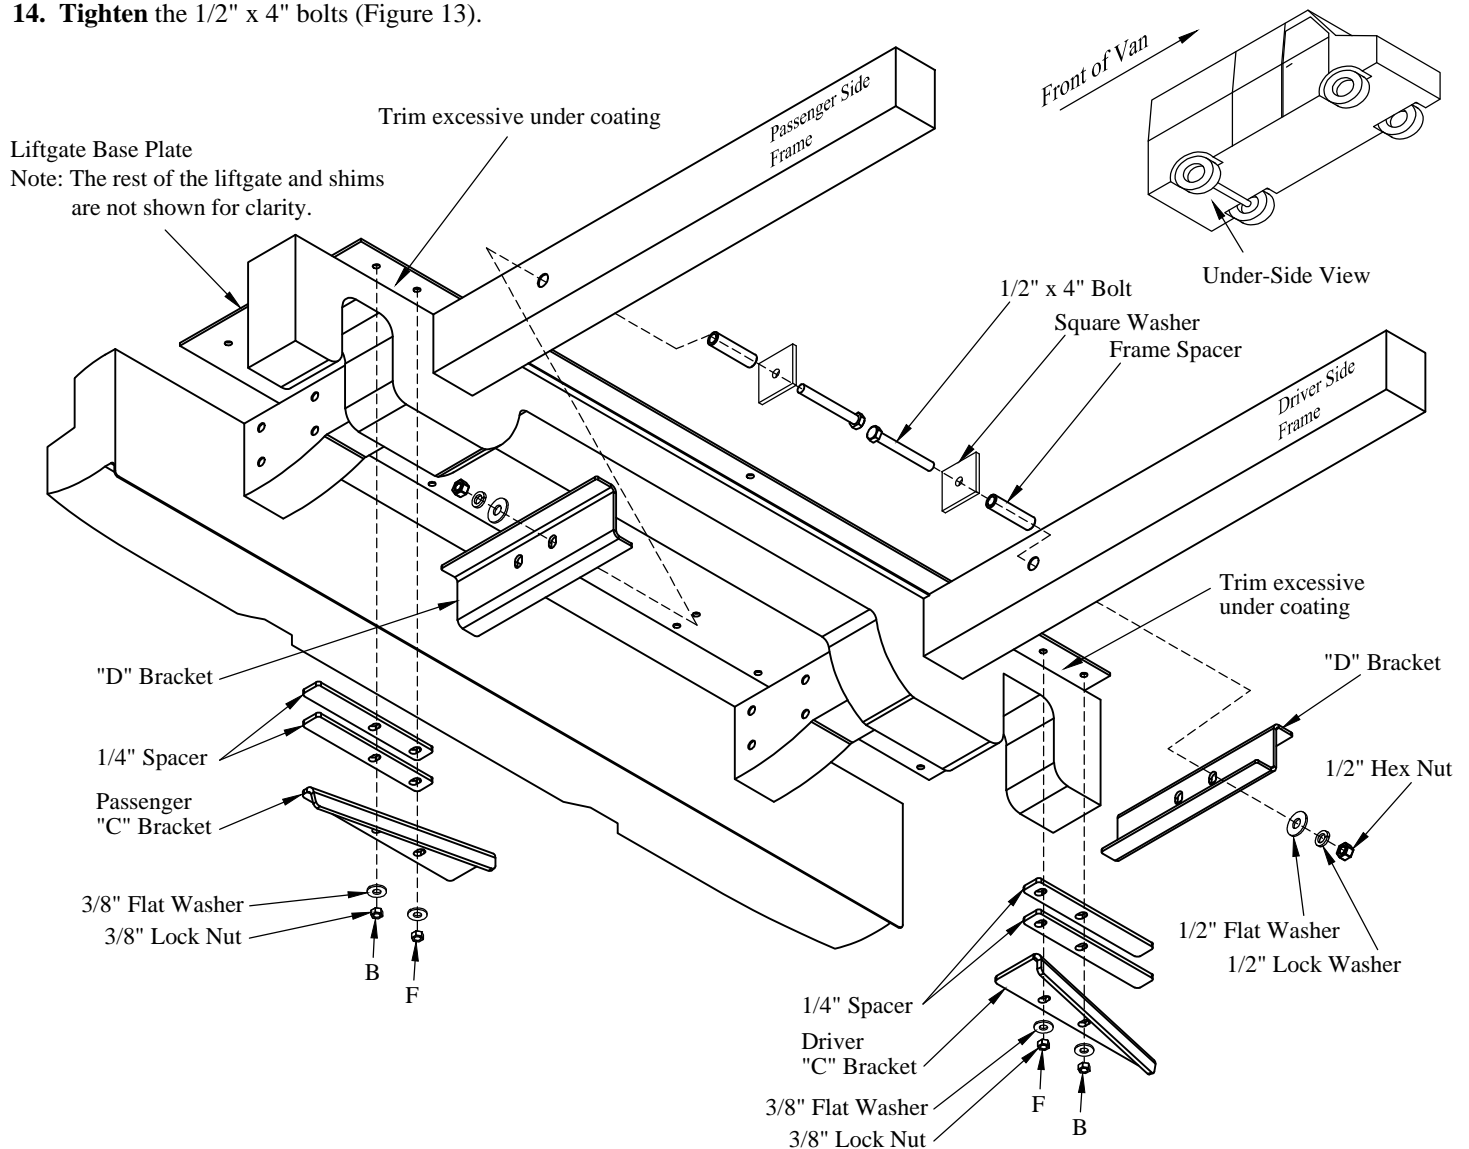

Figure 13: Under-side view of van.
7. **Install** a square washer and frame spacer onto each of two (2) 1/2" x 4" bolts (Figure 13).
9. **Trim** any excessive under coating material from mounting surface near the "B" and "F" locations (Figure 13).
10. **Install** two (2) 1/4" spacers and a "C" bracket onto the each "B" and "F" location bolts (Figure 13).
11. **Secure** the mounting brackets with 3/8" flat washers and lock nuts (Figure 13). Do not tighten at this time.
13. **Tighten** the "A", "B", "C", "D", and "F" position nuts in an alternating pattern (Figure 13).
14. **Tighten** the 1/2" x 4" bolts (Figure 13).